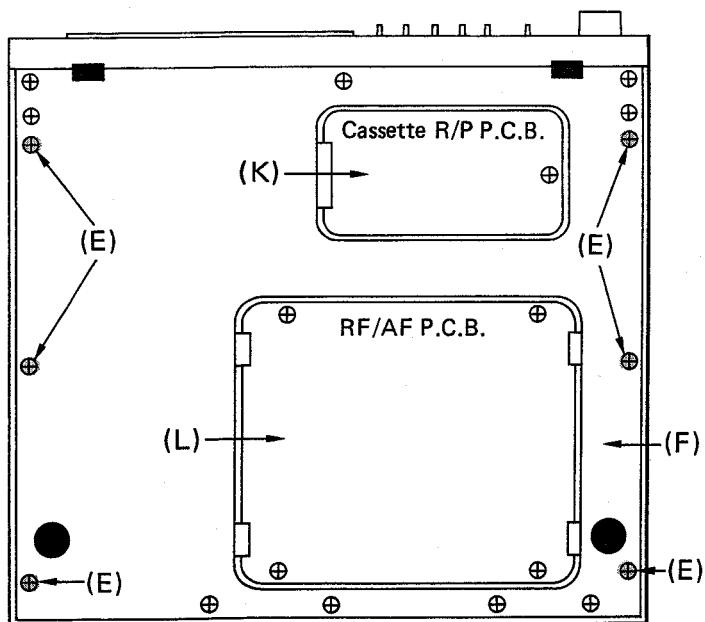

Fig. 2
2. Remove the screws (E) fastening Cabinet Bottom Plate (F). (Fig. 2)